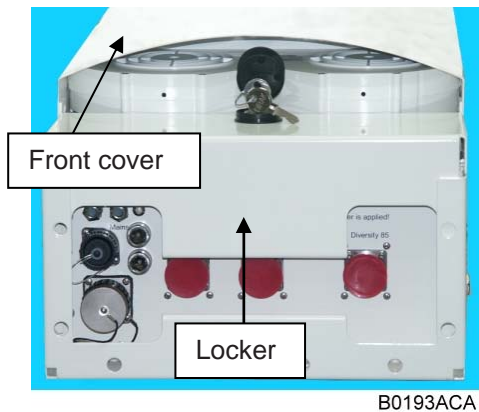

figure 5-1 Locker with key
- To open the cabinet of the remote unit, first dismount the locker by unlocking it with the key (which is part of the delivery) and pulling it out carefully in direction of the arrow marked in figure 5-1 *Locker with key*.